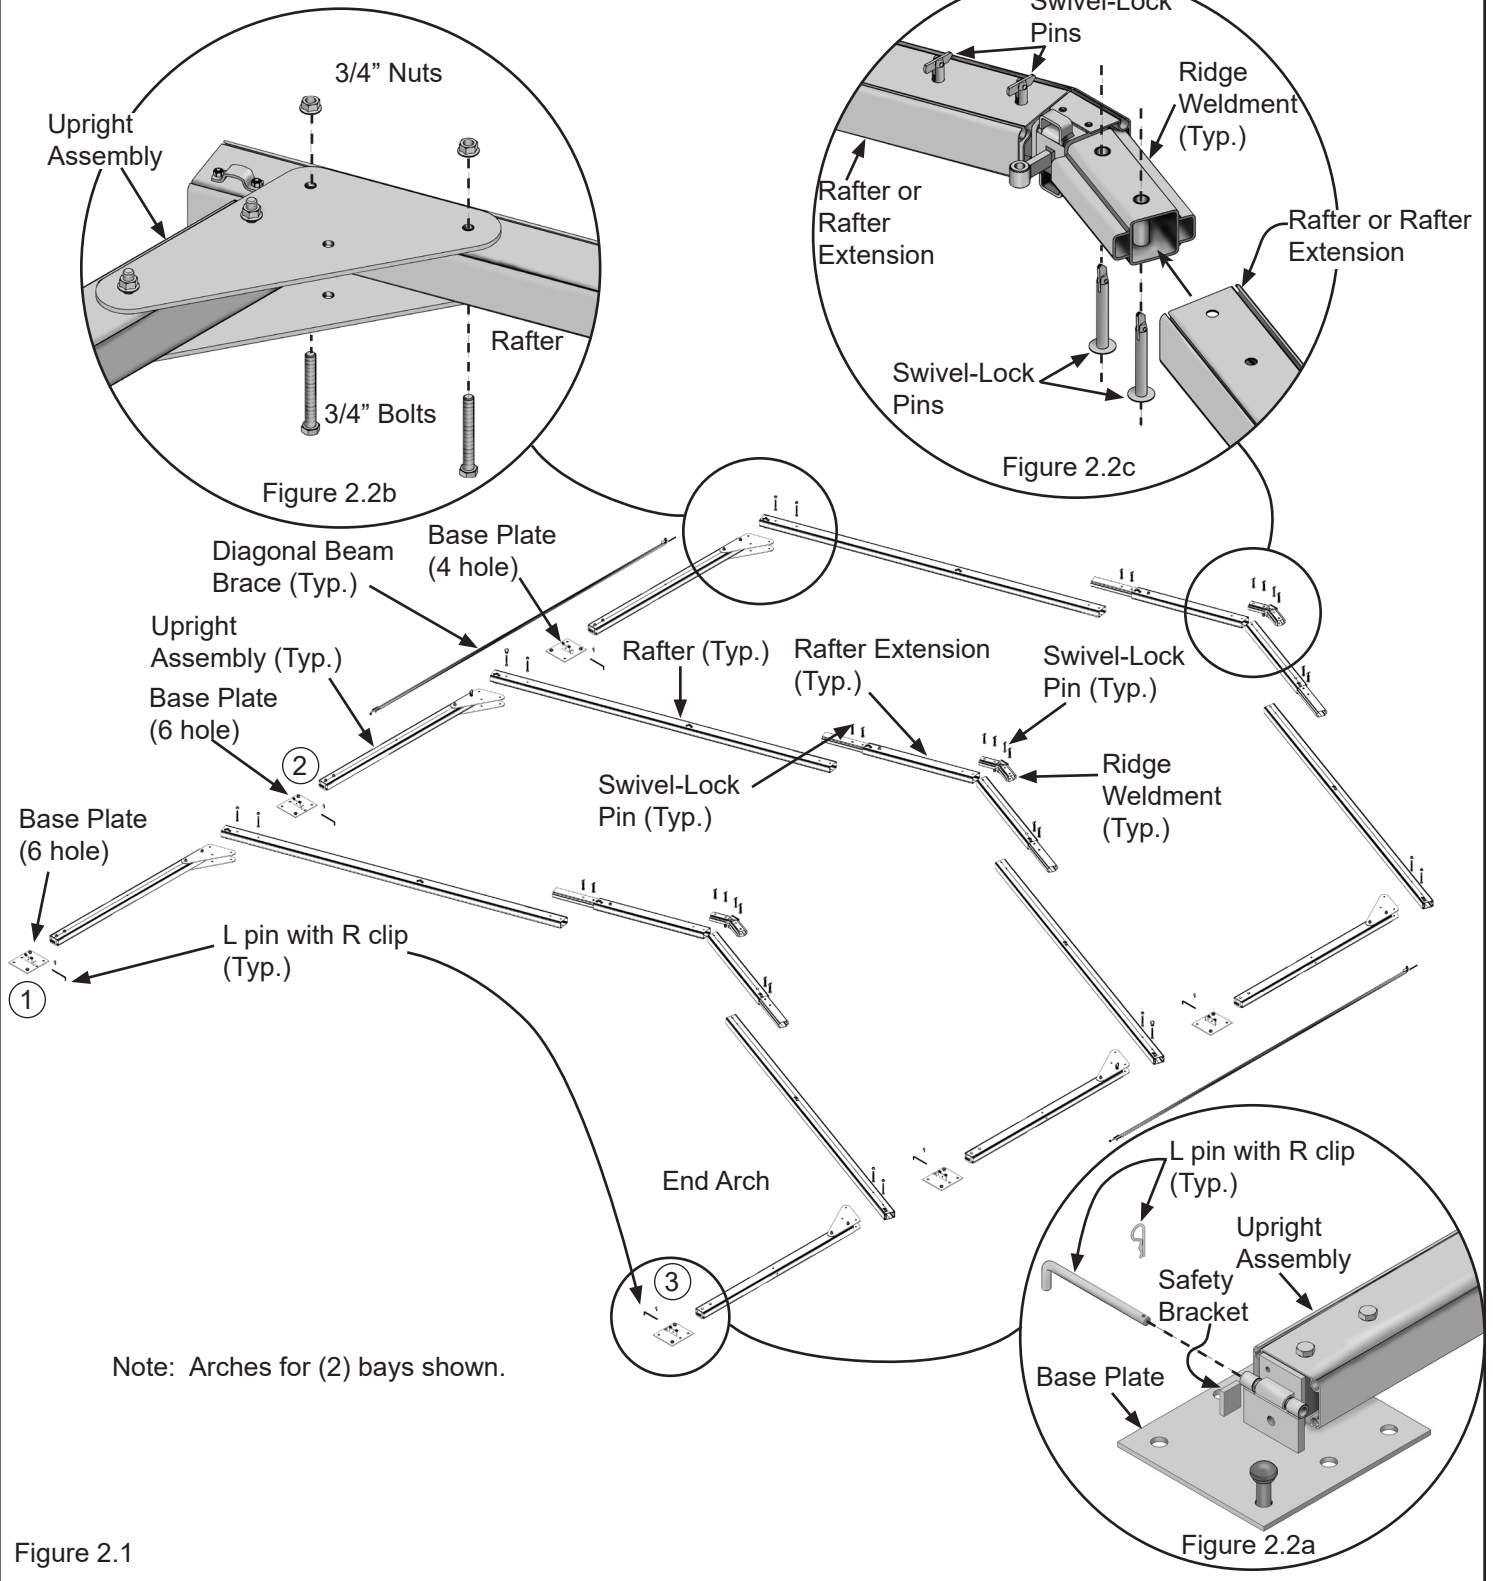

Figure 2.1
2.1 Pre-assembly of arch components: Identify and layout all components according to **Figure 2.1** for the entire structure. NOTE: Setting uprights and rafters on 4 x 4 wood blocking (or whatever blocking may be available) will make the insertion of the pins and bolts easier.